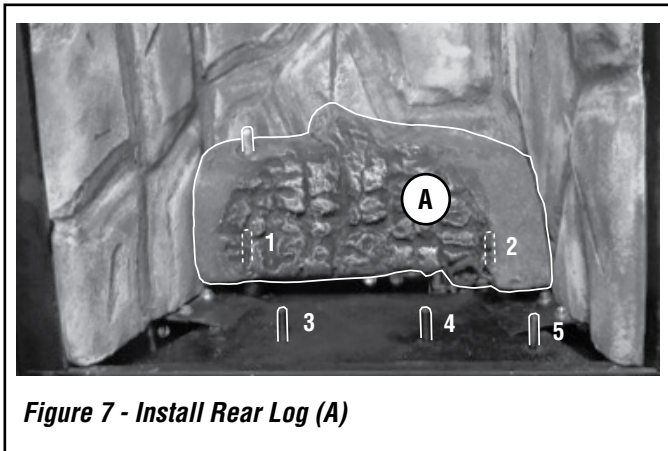

Figure 7 - Install Rear Log (A)
1. Place the rear log (A) as shown in Figure 7. Position the 2 holes on the bottom of the log over the corresponding locating pins (#1 & #2) and against the log support bracket. See Figure 6 for pin and rear bracket locations.